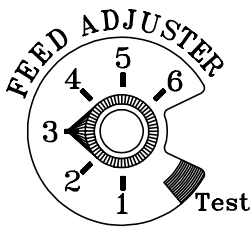

Fig. 9
**Adjust feed rate.** If this is your first fire or you are trying different pellets, set the feed adjuster to "3", fig. 9. This is a conservative number and will probably need to be increased. After you know a feed rate setting that works well, use that setting. Remember too high a feed rate will waste fuel.